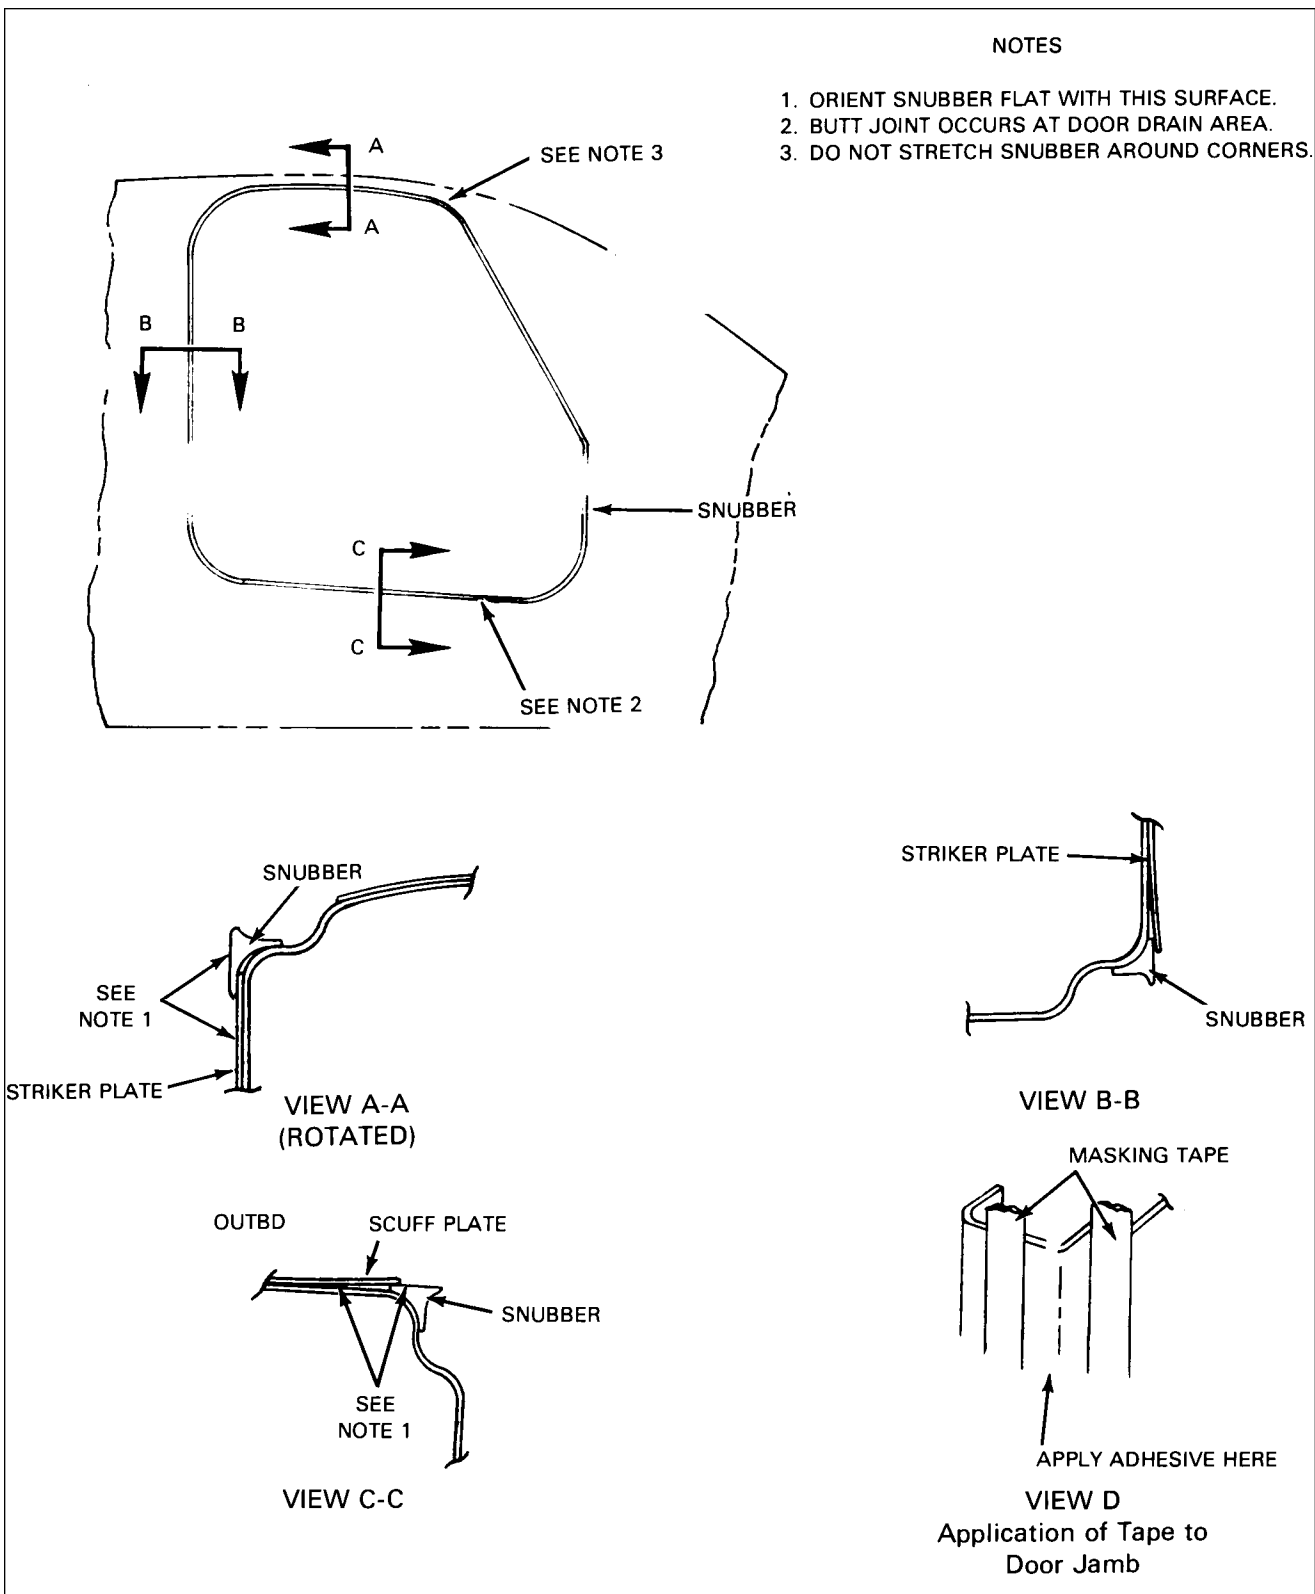

Figure 52-1. Installation of Door Snubber
REMOVAL AND INSTALLATION OF DOOR SEAL SNUBBER. (Refer to Figure 52-1.)
To effect a clean installation, it is recommended that the jamb be masked off as shown in Figure 52-1.
Make certain the leg of the snubber goes under the striker plate for the side latch and over the striker plate for the upper latch. (Refer to Figure 52-1.)
- B. Apply adhesive to the door jamb in the area shown in Figure 52-1, View D, and to the inside surface of the snubber.